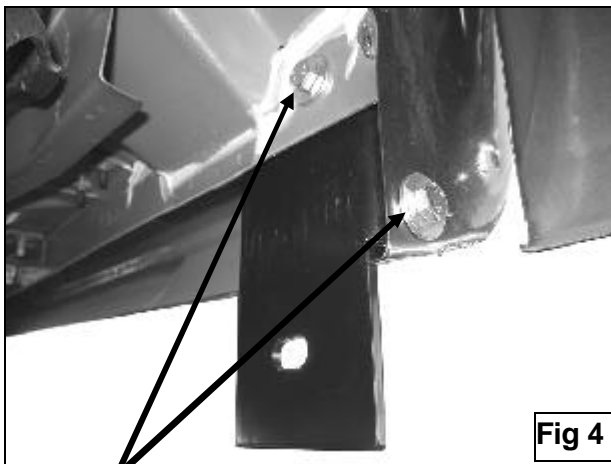

Fig 4
5. With the larger 90° bend towards the rear of the vehicle and facing the side of the vehicle, insert the driver side rear Bracket between the side panel and body of the vehicle (**Figure 4 & 5**). Line up the hole in the 90° bend with factory hole located between the cab and the bed of the vehicle and secure it using the included (1) 10mm x 30mm Hex Head Bolt, (1) 10mm Lock Washer, (1) 10mm Hex Nut, and (2) 10mm Flat Washers. Attach upper mounting location in the Rear Bracket to factory hole in the side panel using the included (1) 10mm x 30mm Hex Head Bolt, (1) 10mm Lock Washer, (1) 10mm Hex Nut, and (2) 10mm Flat Washers (**Figure 4 & 5**). **NOTE:** On some models drilling on the side panel is required. **IMPORTANT:** Any cutting or drilling tool may break or shatter. Government regulations require safety glasses & equipment at all times when cutting or drilling.